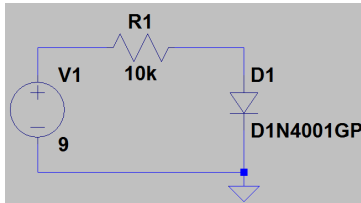

Fig. 7. Circuit to measure the dc characteristics of a diode. R1 can be as low as 100 Ω .
9. Build the diode test circuit shown in Fig. 7 with a 1-W $100\text{-}\Omega$ resistor. Put a rectifying diode, 1N4001, in the circuit. Apply a dc positive voltage. Vary the voltage from 0 V, 0.2 V, 0.4 V, 0.5 V, 0.6 V, 0.7 V, 0.8 V, 0.9 V; and 1 V to 10 V in 1-V steps. Measure the voltage across the resistor. Measure the voltage across the diode. Divide the voltage across the resistor by the resistance value to obtain the resistor current, which is also the diode current because they are in series. Record the diode current in mA unit and the diode voltage. Now, reverse the polarity of power supply and apply a negative voltage. Change the resistor to $100\text{ k}\Omega$. Record I and V for negative bias voltages from 0 to -10 V in 2-V steps. For 1N4001, there should be an extremely small leakage current under reverse bias.